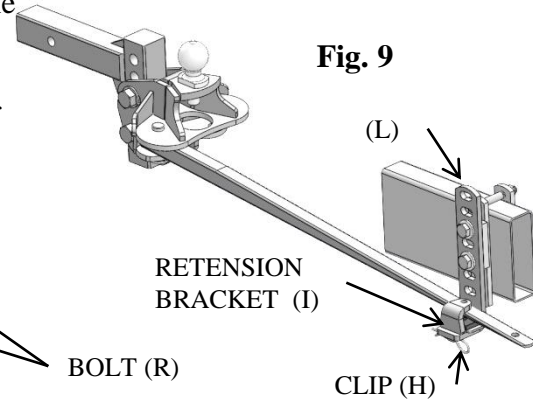

Fig. 9
- Place spring bar retention bracket (I) into the L-bracket (L) and secure with clip (H) as shown in Fig. 9.
- Remove spring clip (H), fig. 9, from spring bar retention bracket (I). Remove bracket.